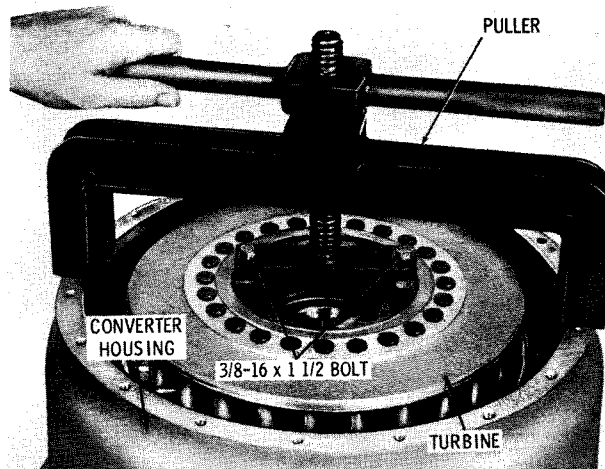
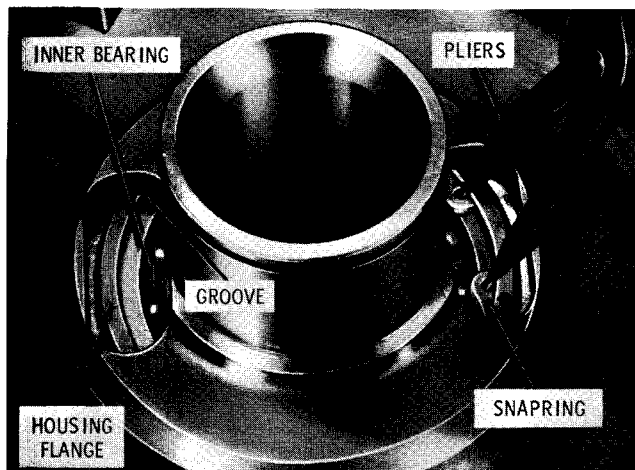

Fig. 5-13. Removing turbine from pump shaft and converter housing
Fig. 5-14. Removing (or installing) inner bearing snapping (VH, VSI series) S2014
(4) Install a puller (fig. 5-13) using two 3/8-16 x 1 1/2-inch bolts in the turbine. Remove the turbine, turbine snapping, spacer and ball bearing.
(5) Remove the snapping, spacer and ball bearing from the turbine.
(6) On the VH transmission, remove the inner bearing snapping from the groove in the converter housing flange (fig. 5-14). The snapping cannot be removed from the assembly at this time but should be placed in the groove in the pump.